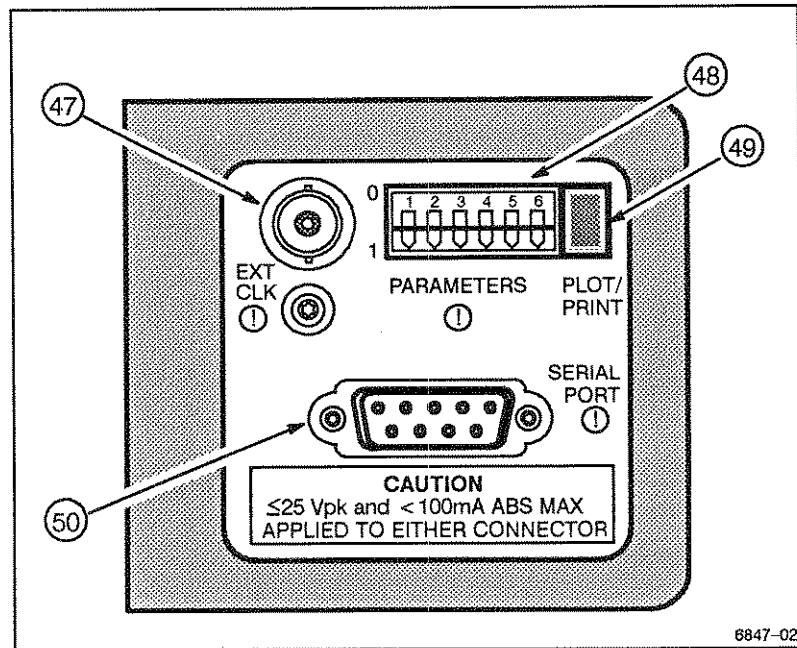

Figure 3-8. Right side panel.
See Figure 3-8 for the location of items 47 through 50.
- 48 **PARAMETER SWITCHES**—The options of the interface are selected using six switches mounted on the side panel. (See Figure 3-8). Switch settings are given in Figure 3-9.